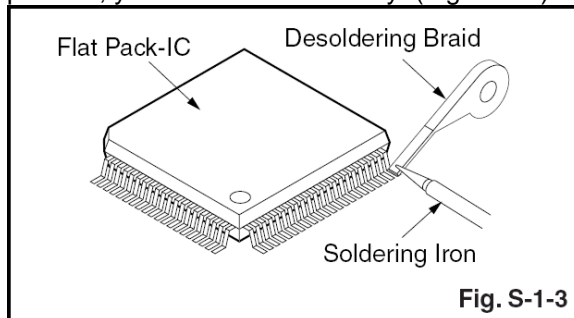

Fig. S-1-3
1. Using desoldering braid, remove the solder from all pins of the flat pack-IC. When you use solder flux which is applied to all pins of the flat pack-IC, you can remove it easily. (Fig. S-1-3)